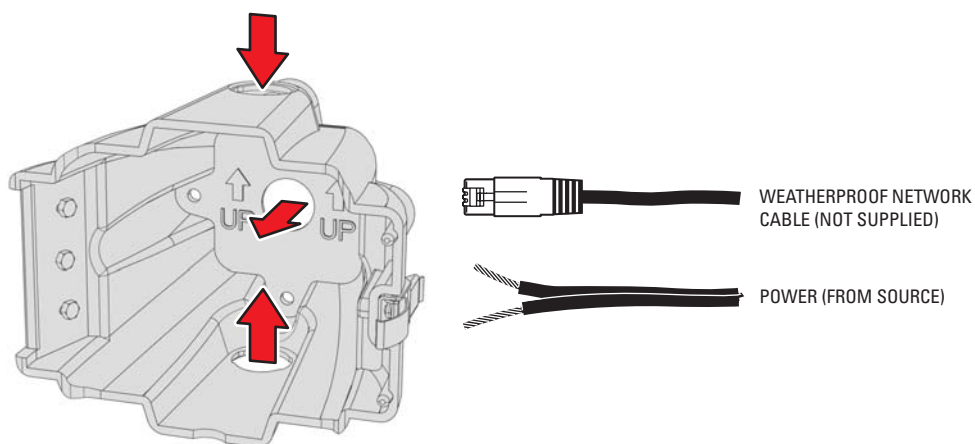

Figure 12. Routing Power and Network Cables
6. Route the power and network cables into the J-box through the top, back, or bottom opening (refer to Figure 12).